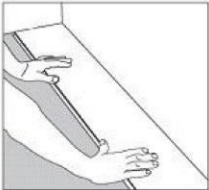

Figure 1
7. Starting from the **Left** with the tongue facing the wall, carefully place the first board in place (**Figure 1**).